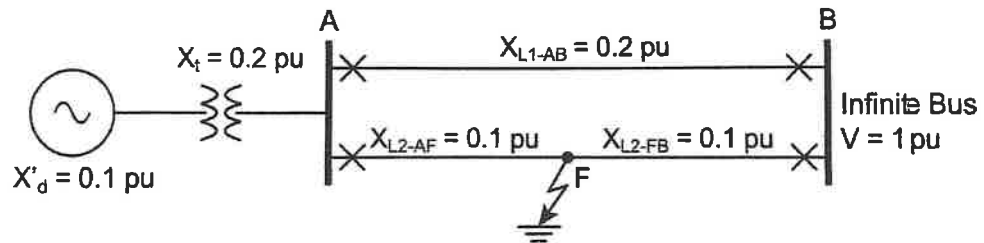

Figure Q3
- b) A 50 Hz synchronous generator having inertia constant $H = 3 \text{ MJ/MVA}$ and a direct axis transient reactance $X'_d = 0.1 \text{ pu}$ is connected to an infinite bus of 1 pu voltage through a double circuit line as shown in Figure Q3. The circuit is purely reactive and the impedances are shown on the diagram, on a common system base. The generator excitation voltage is $1.22 \angle 26.5^\circ \text{ pu}$. A solid three phase fault occurs at the middle of one of the lines (marked by point F on Figure Q3). The fault is cleared by disconnecting the faulted line.